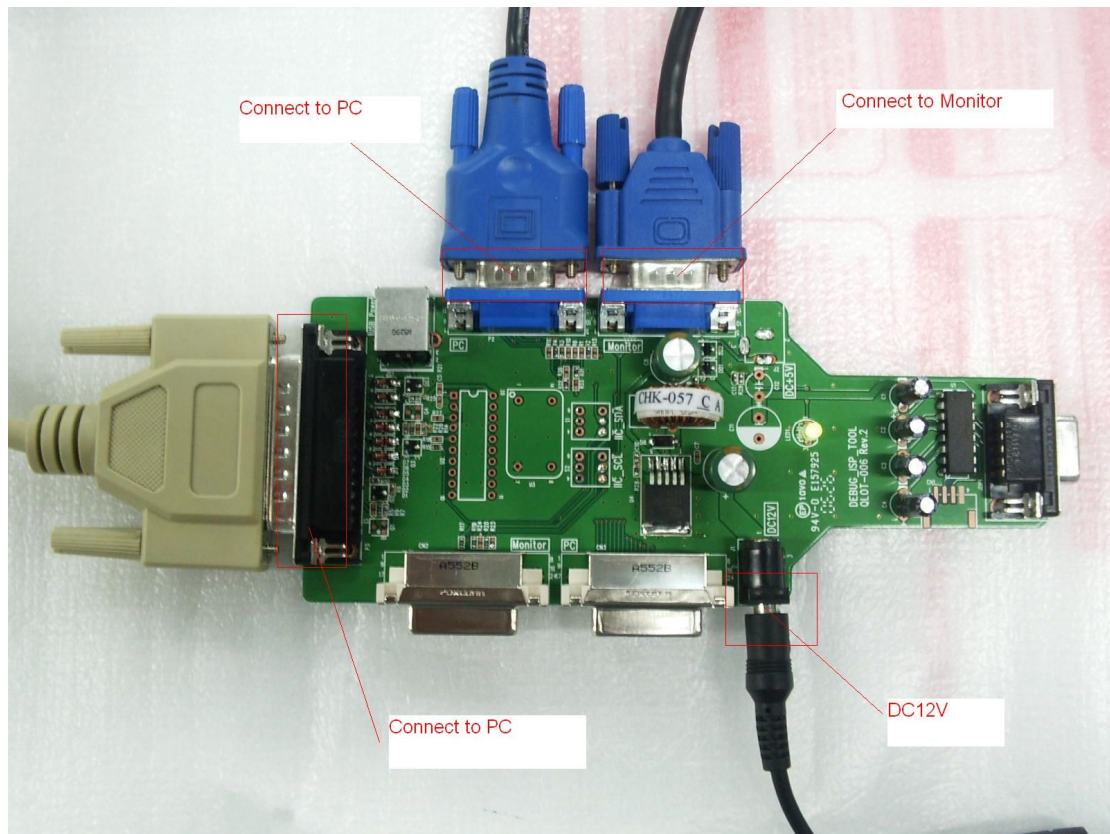

Fig 11
- 7.1 Connect the monitor and PC follow Fig 11